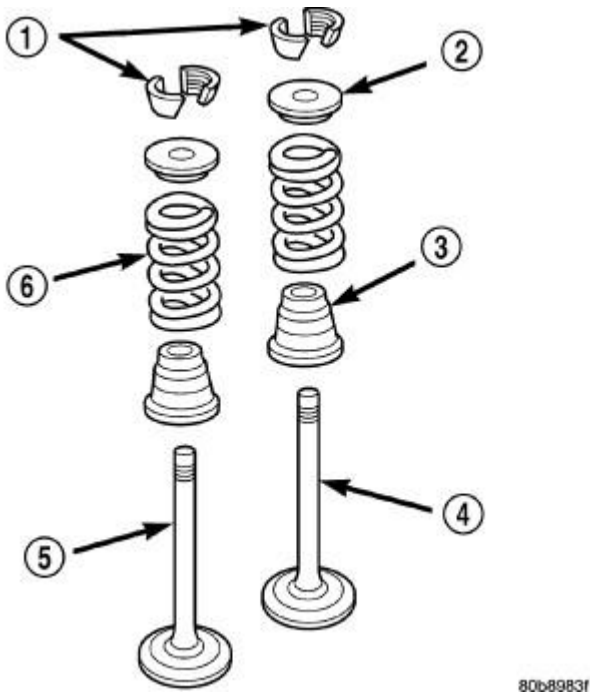

Fig. 47: Valve Assembly Configuration
5. Release the valve spring compressor and make sure the two spring retainer halves and the spring retainer are fully seated. Refer to **Fig. 47**.